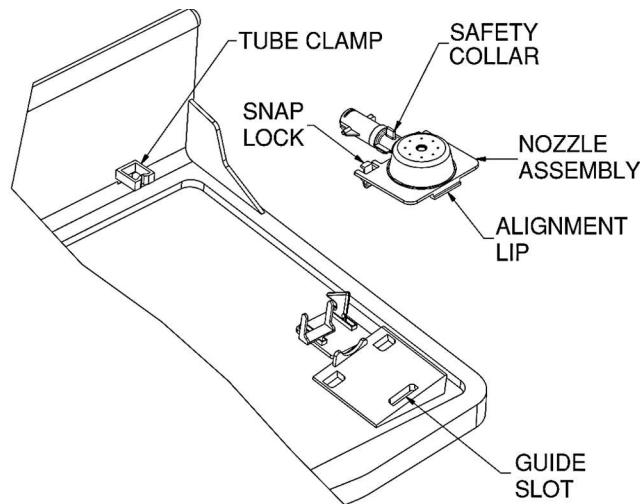

FIGURE 3
- C. With the tray open, press the tabs on the snap locks forward towards the front of the tray and carefully remove nozzle assembly (**Figure 3**).